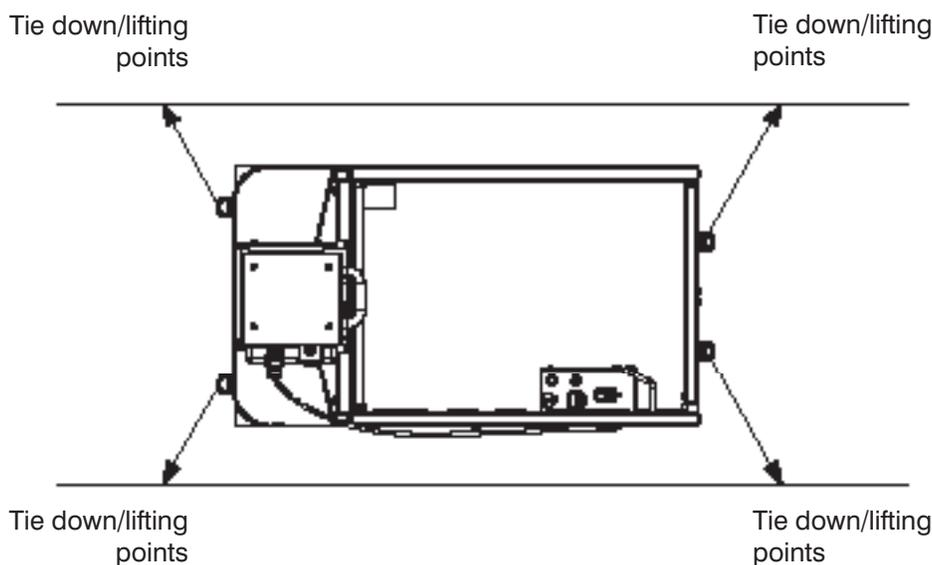

Figure 3-7. Tie Downs/Lifting Points
When transporting, the MEWP must be secured to the truck or trailer deck. Tie downs are available as illustrated in Figure 3-7.
- The lifting/rigging must be attached to all four lifting points as illustrated in Figure 3-7.